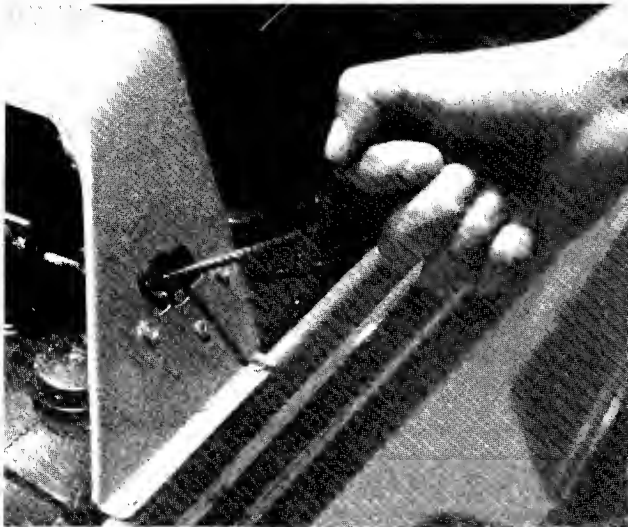

FIGURE 6. RECOIL STARTER
7. **Recoil Model.** Turn the ignition key to the **ON** position, twist the recoil starter handle until it is free and pull it with a quick steady motion. After the engine starts, return the recoil starter handle and twist it until it locks. See figure 6.